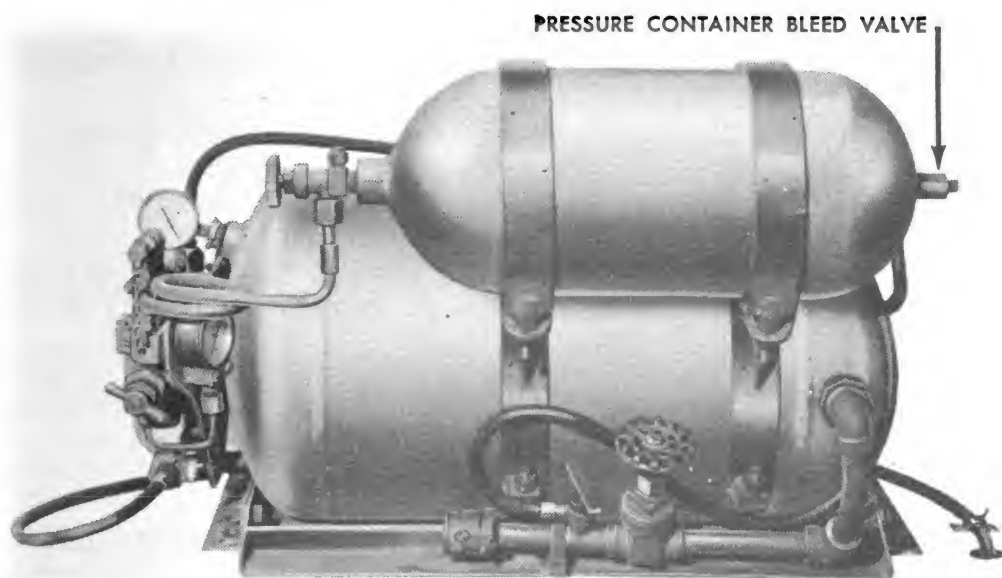

Fig. 23. Sponson fuel group completely assembled.
j. Bleed hose. Attach bleed hose coupling to male connection on top of bleed valve. Other end of bleed hose should be connected to blow-off valve. Tighten with wrench. Fuel and pressure group is now completely assembled (fig. 23).
c. Make an improvised clamp to hold inside portion of hose in place on the shelf. Bolt or tack weld clamp to shelf approximately 2 inches from the hole. Wire the hose to the clamp (fig. 23).